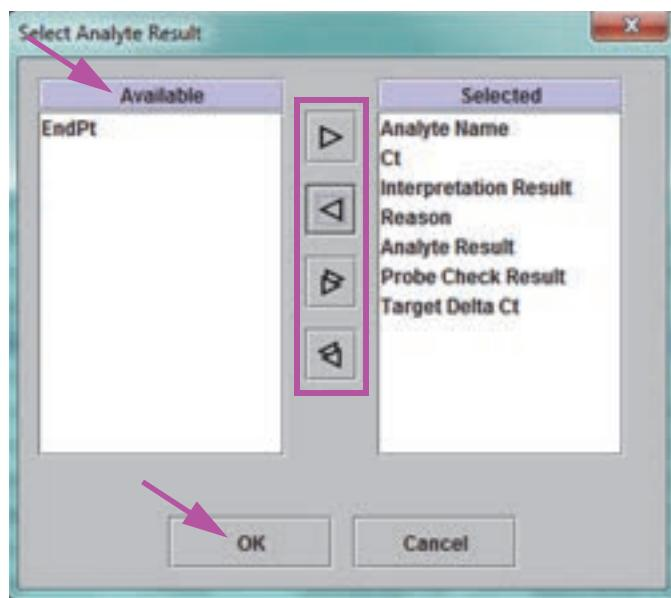

Figure 5-58. Select Analyte Result Dialog Box
- The **Analyte Result** button allows the user to select specific information to include in the Analyte Result section of the report (see Figure 5-58).